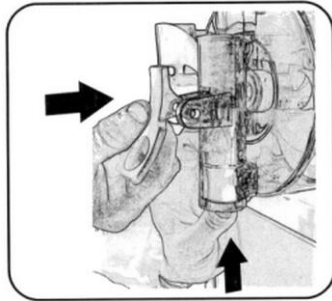

Fig. 41
5. Keep the pin of the drain tap pressed up until you can see the square hole into which the handle should be inserted (Fig. 41).